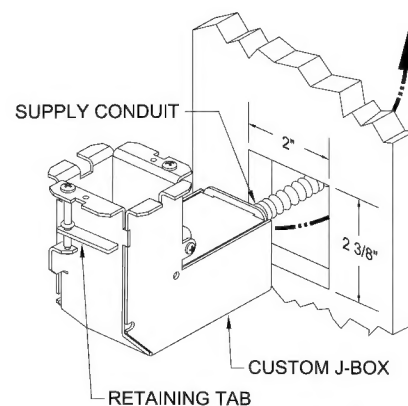
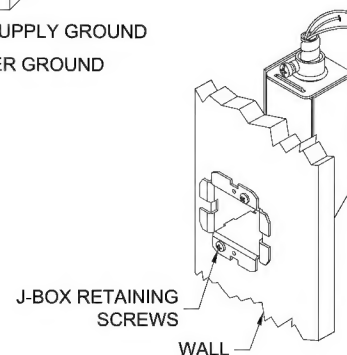

FIG. 2
FIG. 3
3. Bring SUPPLY CONDUIT (by others) to J-BOX and secure in place with appropriate connector (by others) (Note: A minimum of 6" of supply wire is required in J-BOX for proper installation.) (FIG. 2).
5. Insert J-BOX into WALL, making certain RETAINING TABS are in position shown (FIG. 2). J-BOX can be mounted as shown or in a downward position. Recommended cut-out size is 2" X 2 3/8" (note: luminaires are for WALL MOUNTING ONLY.).
6. Swing J-BOX through cut-out as shown and screw down J-BOX RETAINING SCREWS (FIG. 2&3). Tighten screws until J-BOX is tight against WALL (FIG. 3).